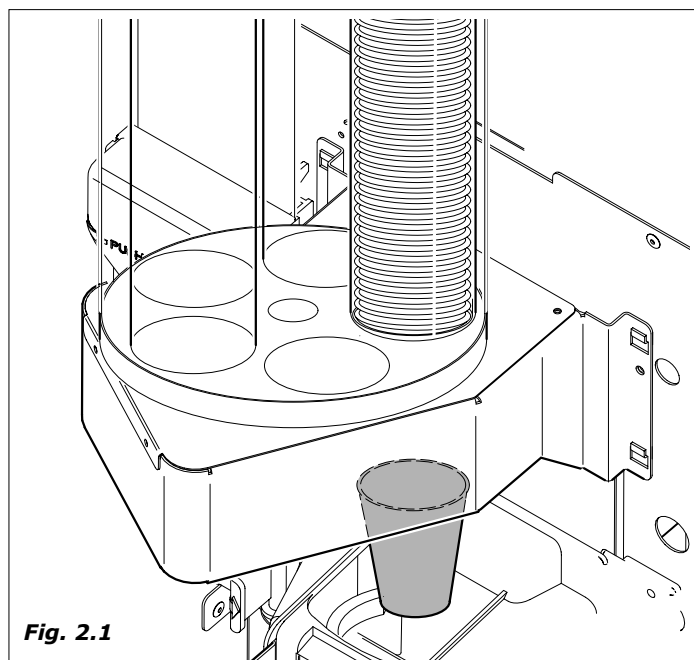

Fig. 2.1
- the motor inside of the cup dispenser moves the plastic gear to separate and make the cup fall into the cup ring inside the cup dispenser (Fig.2.1).